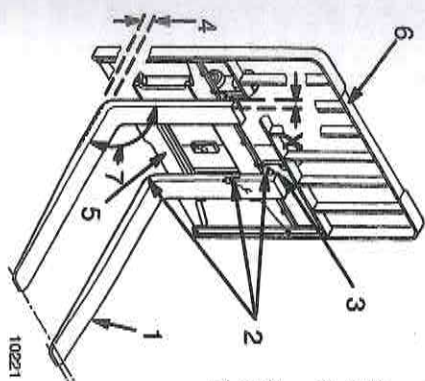
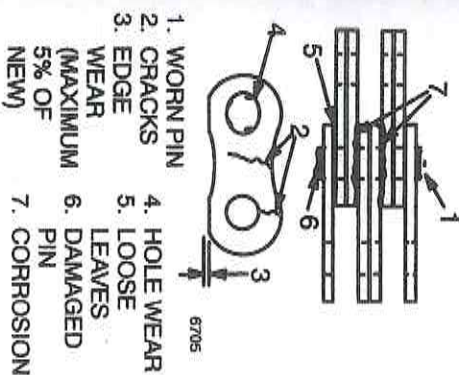

Figure 12. Check The Forks
Figure 13. Check The Lift Chains
Inspection Of Forks, Mast, And Lift Chains (See Figure 12. and Figure 13.)
4. Inspect the forks for cracks and wear. Check that the fork tips are aligned as shown in Figure 12. Check that the bottom of the fork is not worn (item 4).
7. Inspect the lift chains for cracks or broken links and pins. See Figure 13.